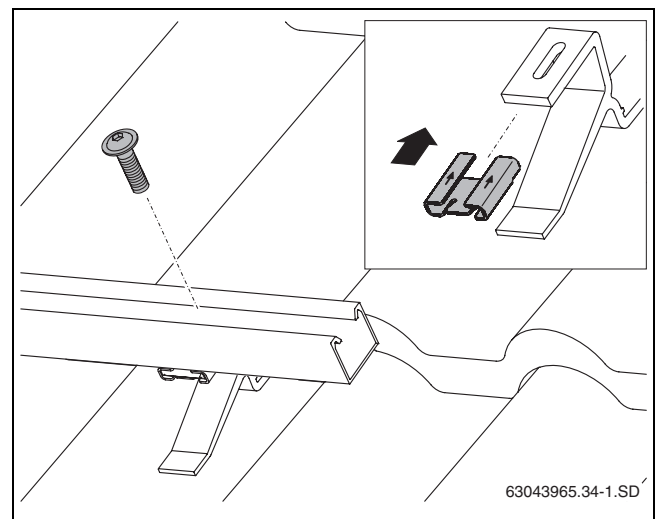

Fig. 28 Fastening profile rails to the roof hook
- ▶ Push sliding nut (Fig. 28, [1]) onto the roof hook in the direction of the arrow.
- ▶ Place the lower profile rails (Fig. 28, [2]) onto the roof hooks and loosely fasten M8 bolt (Fig. 28, [3]) so that the profile rails can still be aligned.